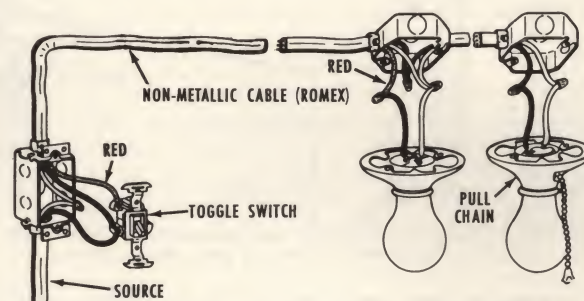

FIG. 53—TWO FIXTURES INSTALLED ON SAME LINE
**TWO LIGHT FIXTURES—ONE ON WALL SWITCH.** Fig. 53 illustrates how two light fixtures may be on the same line, but only one light is operated by the wall switch. An "old work" example of this hook-up would be in a bedroom where a pull-chain closet light is added to an existing ceiling light. This can be done more conveniently with non-metallic or armored cable; conduit is more suitable for "new work." Run 3-wire cable from switch box to first outlet; extend two-wire cable from first to second outlet. White wire goes from switch box to both fixtures, as shown. Red wire comes from one terminal of switch and connects to black wire at first fixture. Connect black wire from other switch terminal to black wire from second fixture.